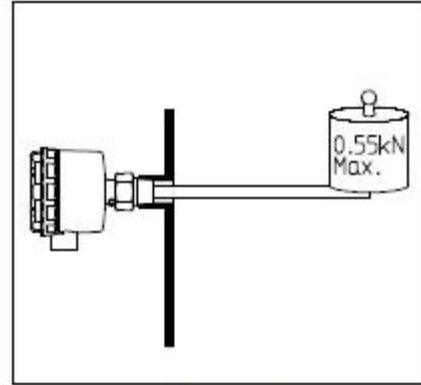

Fig. 5-9
(9) Ensure lateral load applied to the detecting probe will not exceed the rating. Maximum load at the end of the probe ( $\phi$  17.3mm, 270mm long) is 0.55 kN (static load). Load greater than this may cause faulty operation or product damage. (Fig. 5-9)